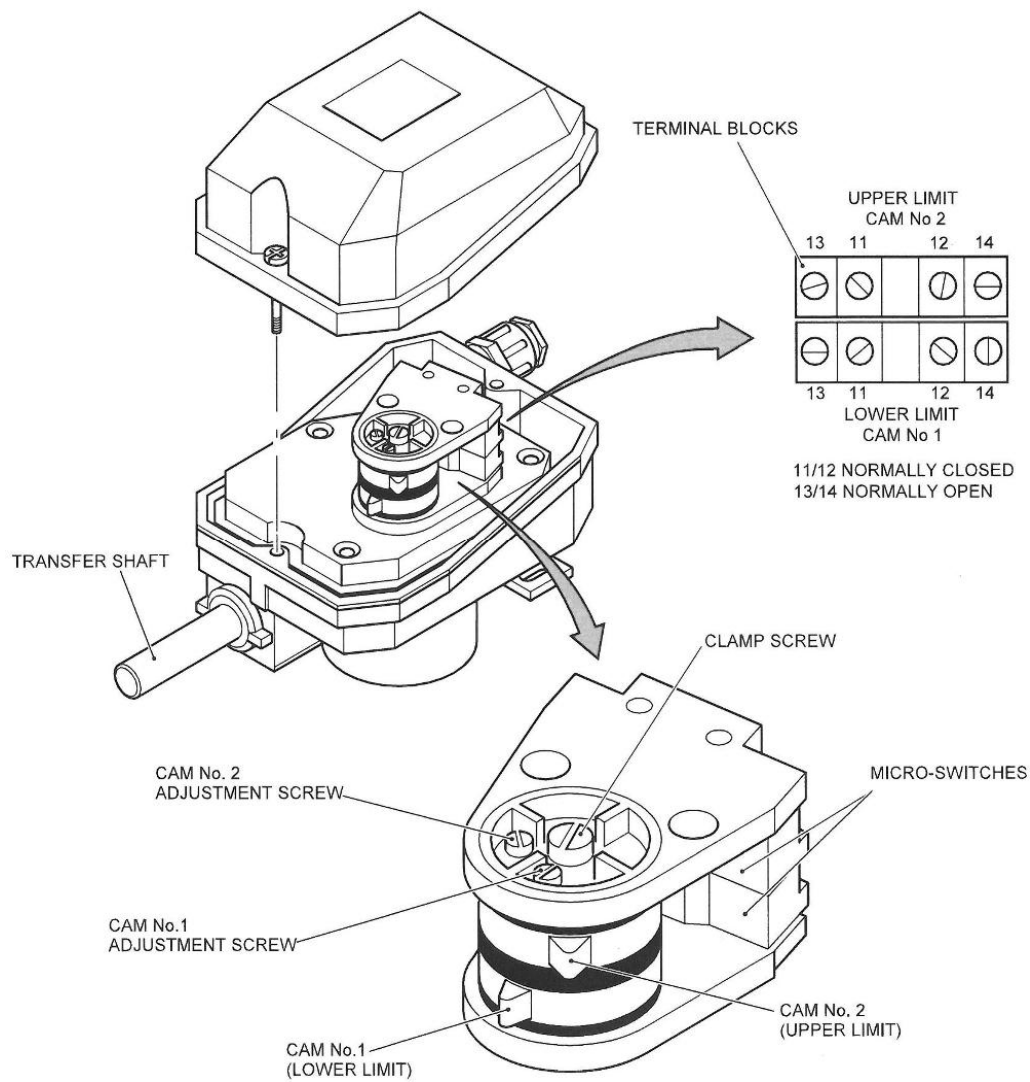

Figure 11 – Setting the Ultimate Upper Limit Switch – Rotary Type
- Remove the lid from the second upper limit and loosen the central clamp screw (see Figure 11).